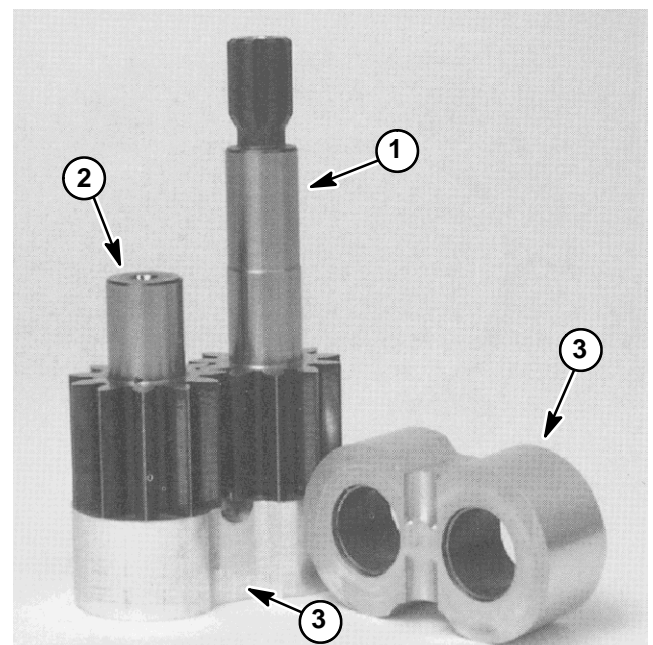

Figure 105
3. Inspect drive gear, idler gear and bearing blocks (Fig. 105) for the following: